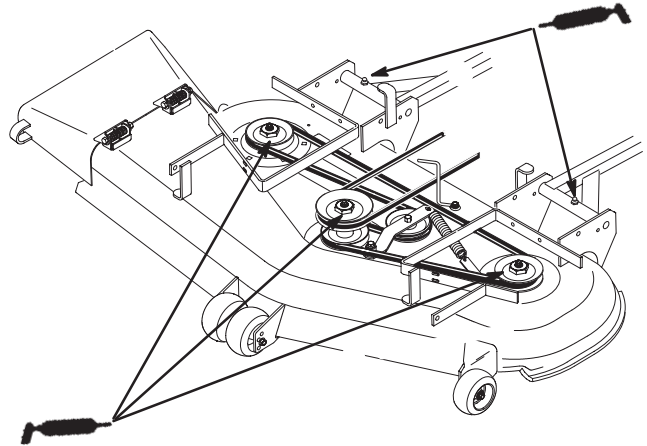

Figure 32
2. Grease the fittings on the three spindle bearings until grease comes out lower seals (Fig. 32).
3. Grease the fittings on the push arms (Fig. 32).